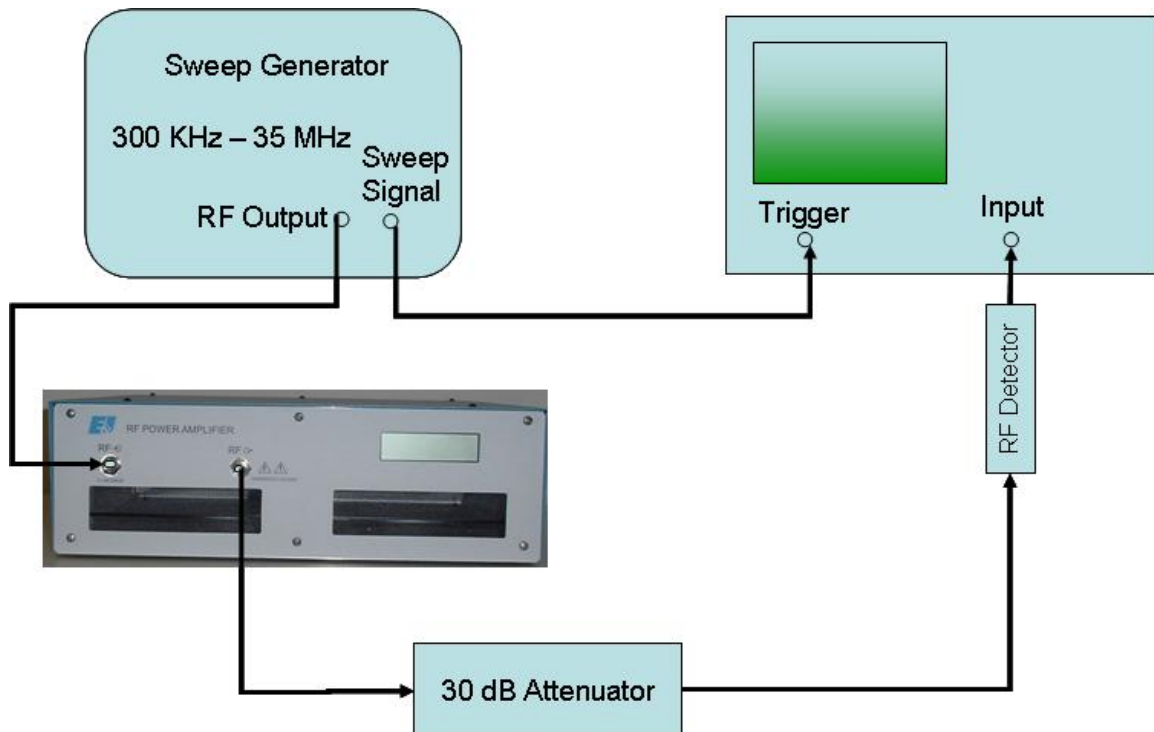

Figure 4-1. Gain Measurement
2. Connect the equipment as shown in Figure 4-1, then proceed as follows:
- g) Reconnect the A 075 into the test set-up of Figure 4-1.